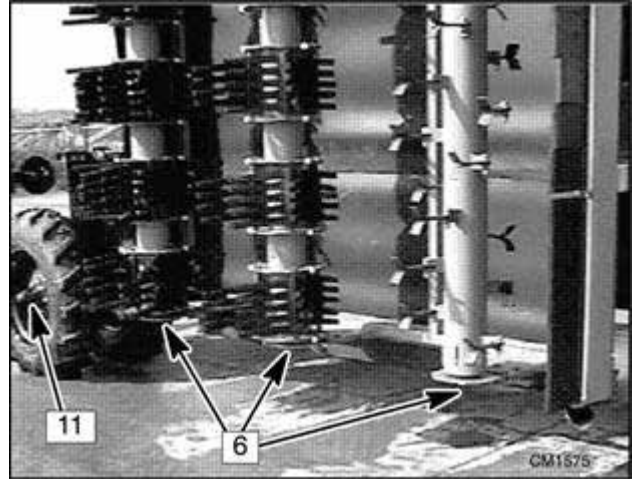
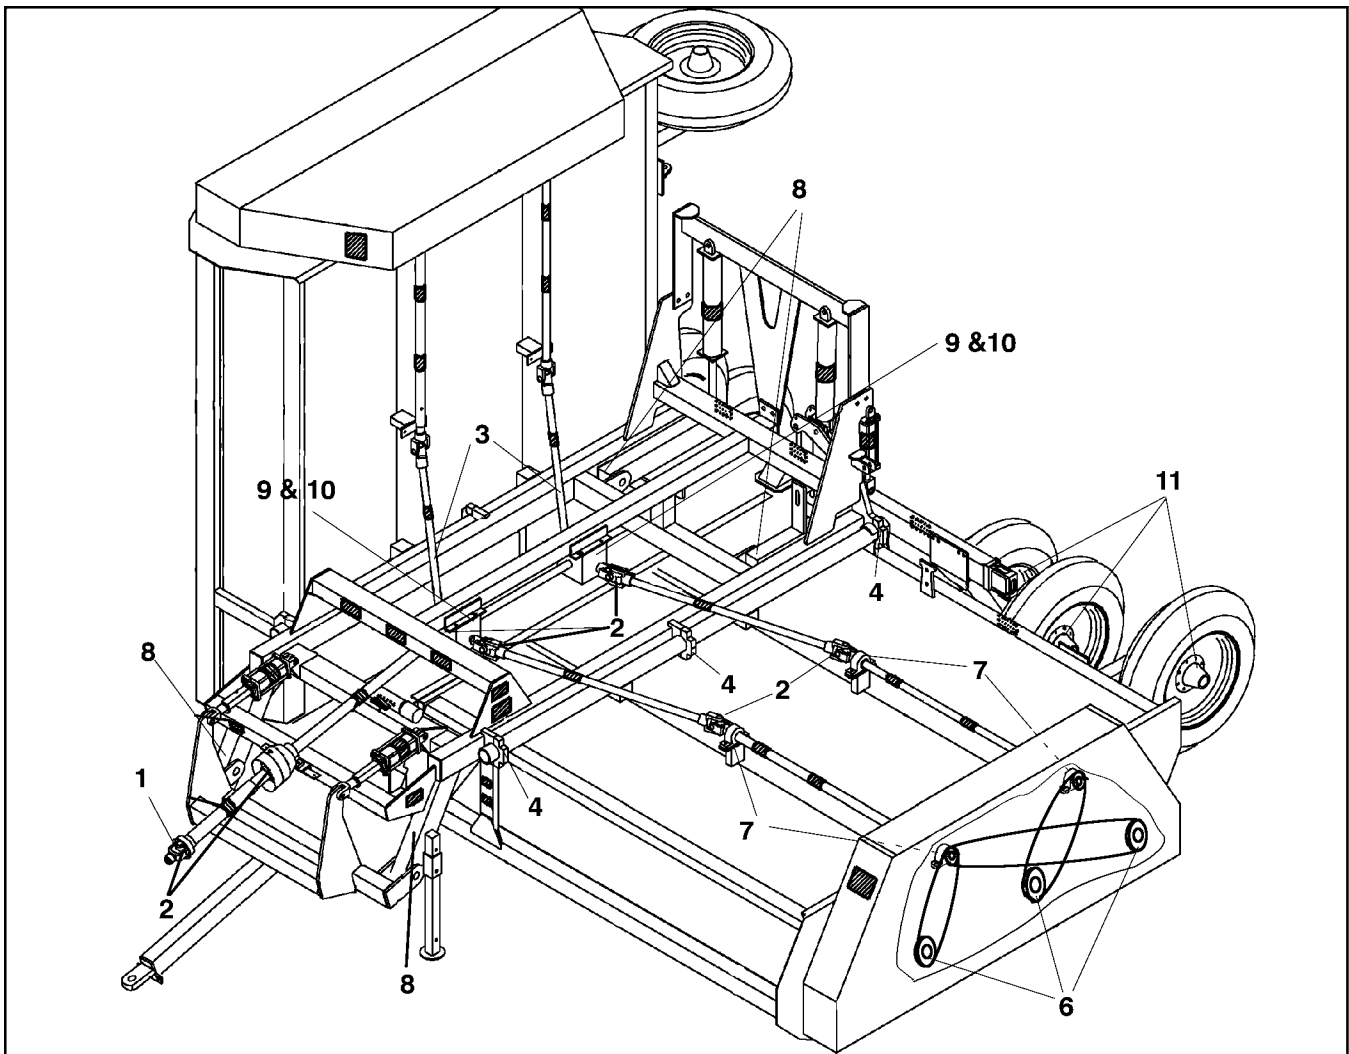
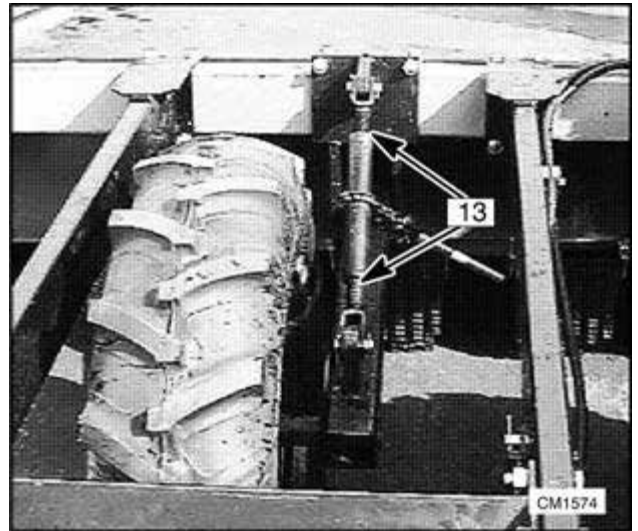

Figure 29. Inside Rotor Bearings
Figure 30. Lubrication Points
Figure 32. Gauge Wheel Jack Screws
Sealed Bearing Information (Figure 29)
(Figure 30 through Figure 32)
6. Grease all rotor bearings (Figure 29 and Figure 30).
13. Grease gauge wheel jack screws (Figure 32).